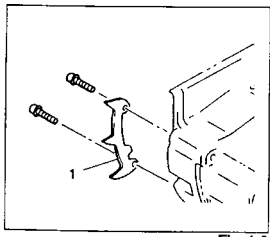
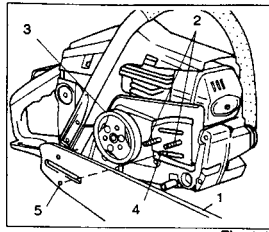

Fig. 1-0
Fig. 1-1
**Install the provided spiked bumper (1) to the unit with the two screws. (Fig. 1-0)
1. Remove the side case by unscrewing two guide bar clamp nuts, and install the guide bar (1) onto the bolts (2), then push it toward the sprocket (3) as far as it will go.
Make sure that the boss of chain tension adjust bolt (4) fits into the hole of the bar (5). (Fig. 1-1)